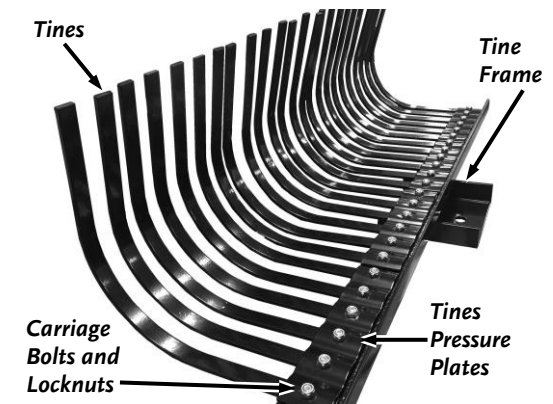

Figure 7
- Attach the twenty-four Tines to the bottom of the Tine Frame using the four Tine Pressure Plates, twenty-four Carriage Bolts and twenty-four M10 Locknuts (**Figure 7**). Ensure that the Tine Pressure Plates are installed so that they prevent the tines from rotating when tightened. Tighten the Hardware using a 17mm Wrench.